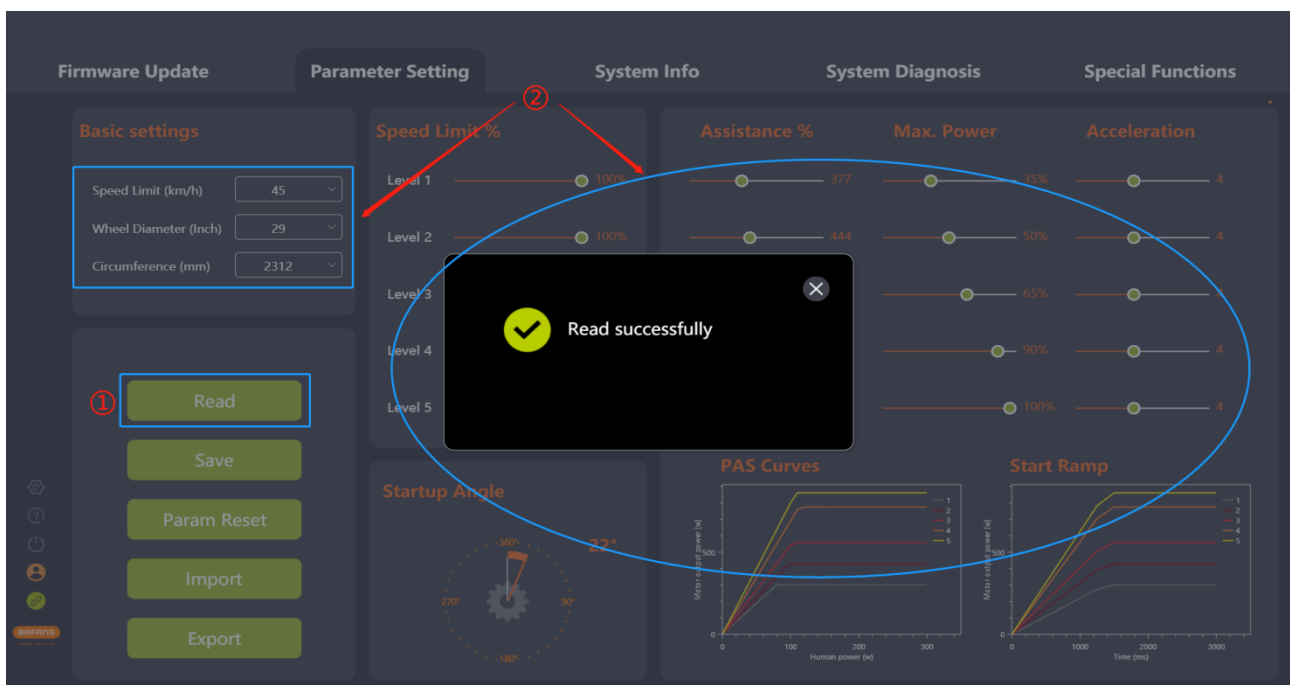

Fig. 5-12 Read
- (1) Confirm that the BESST Tool is connected to the controller and click the "Read" icon;
- (2) Each parameter in the interface is displayed as a number and slider (Fig. 5-12).